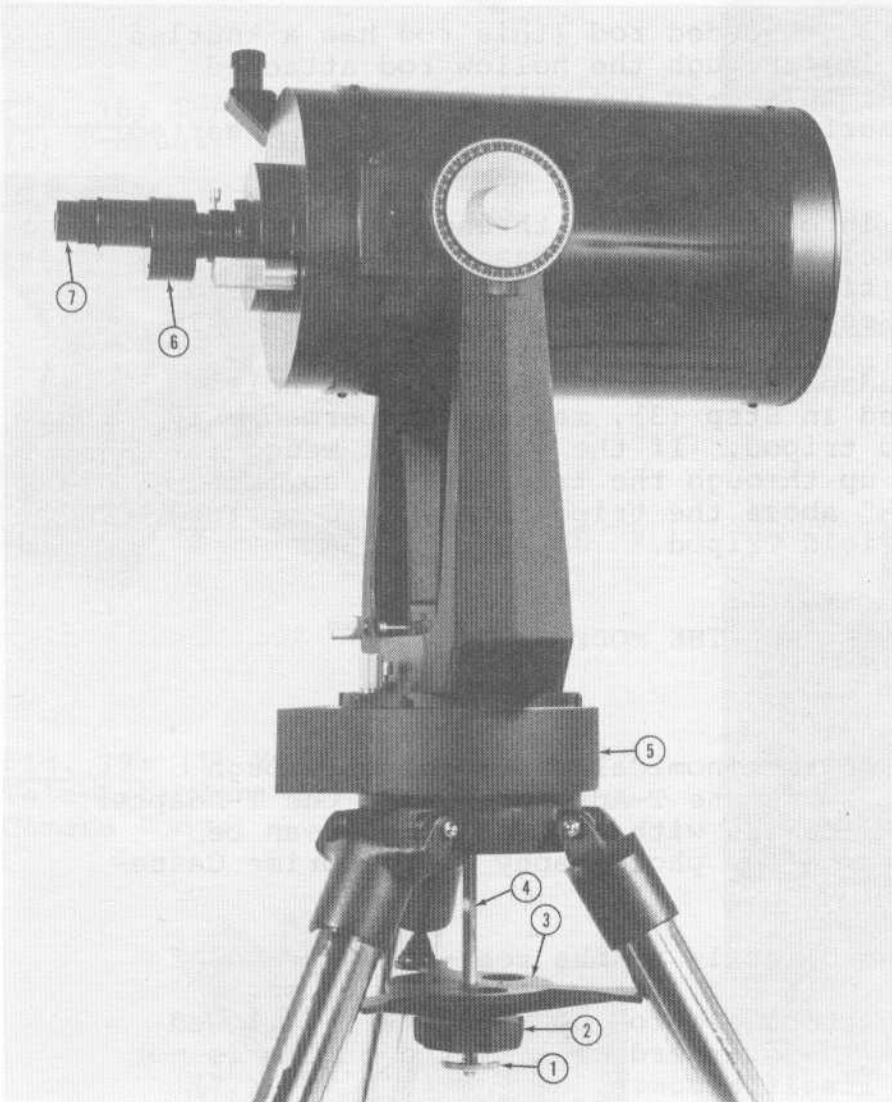

Fig. 17: The Model 2080 Telescope Attached to the Field Tripod with the Altazimuth Adapter.
For terrestrial observations on the field tripod with the Model 2080, the Altazimuth Adapter attaches the telescope's drive base directly to the head of the field tripod. See Fig. 17. The equatorial wedge is not used in this application, and the telescope is oriented in the altitude-azimuth ("altazimuth"), or vertical-horizontal, mode most advantageous for terrestrial viewing.
7. Slide the long $\frac{1}{4}$ -20 threaded rod (this rod has a knurled knob attached to it) through the hollow rod attached in Step (3) above; this $\frac{1}{4}$ -20 rod will just protrude through the top surface of the tripod head when inserted all the way.
8. Fit the $\frac{1}{4}$ -20 rod into the central threaded hole (4), Fig. 11, of the telescope's drive base. Turn the knurled knob and tighten down the rod into the base of the telescope. See Fig. 17.